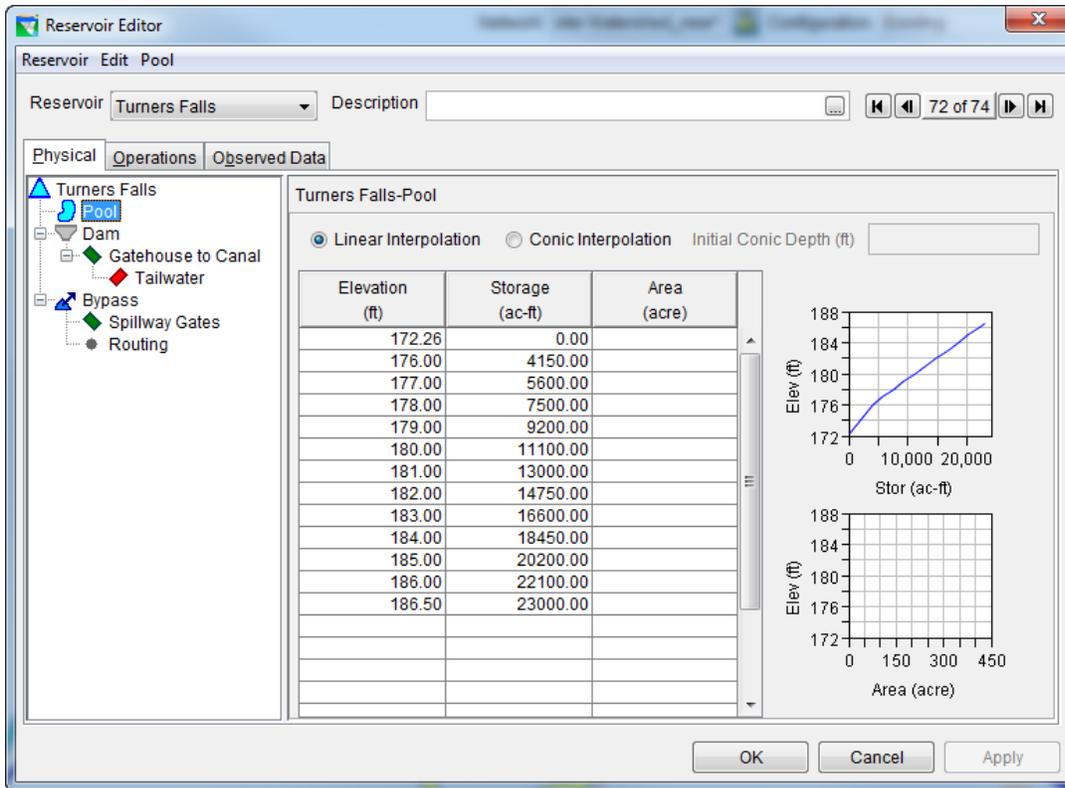
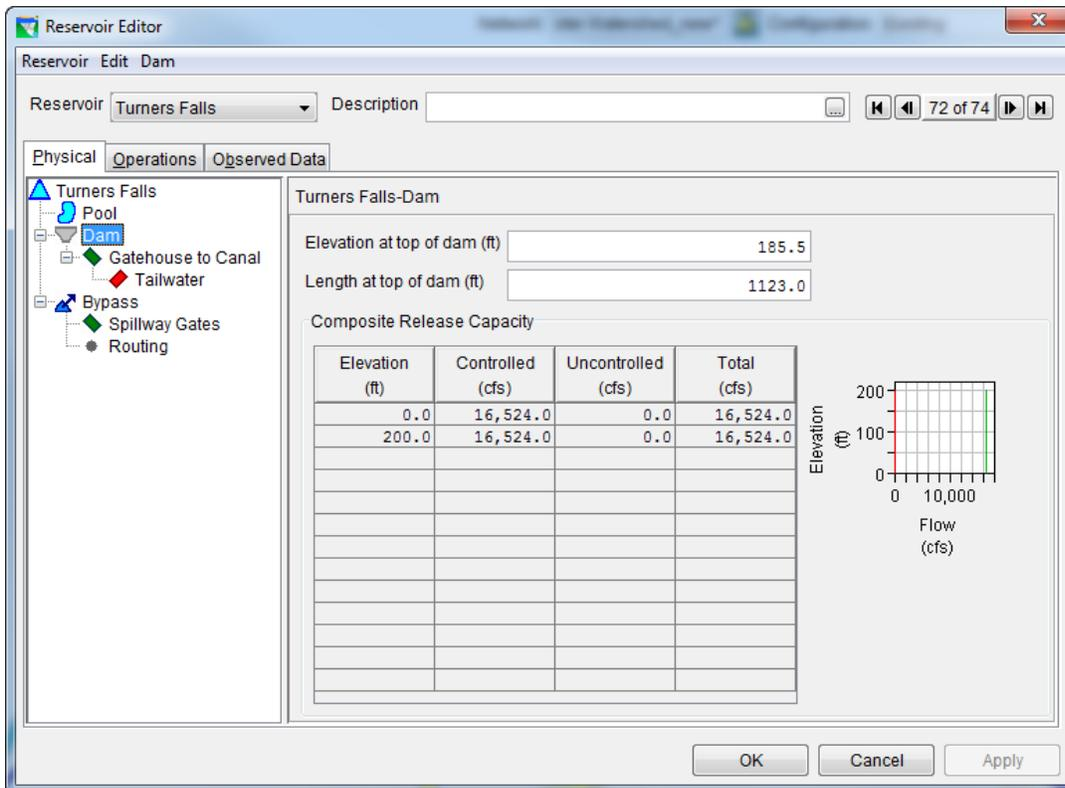

Figure 3: Reservoir Editor: Physical Tab -- Pool
Figure 4: Reservoir Editor: Physical Tab -- Dam
The physical characteristics of the reservoir are separated between the Pool and the Dam in the HEC-ResSim model. The elevation-storage-area defines the pool as shown in Figure 399. The dam consists of two types of outlets: (1) controlled Gatehouse to Canal, and (2) controlled spillway Gates, as shown in Figure 4.